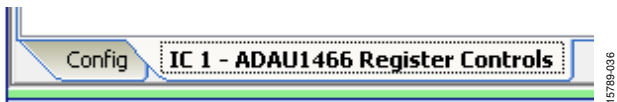

Figure 34. IC 1 - ADAU146x Register Controls Tab
- a. Click the **Hardware Configuration** tab, then click the **IC 1 - ADAU146x Register Controls** tab at the bottom of the window (see Figure 34).